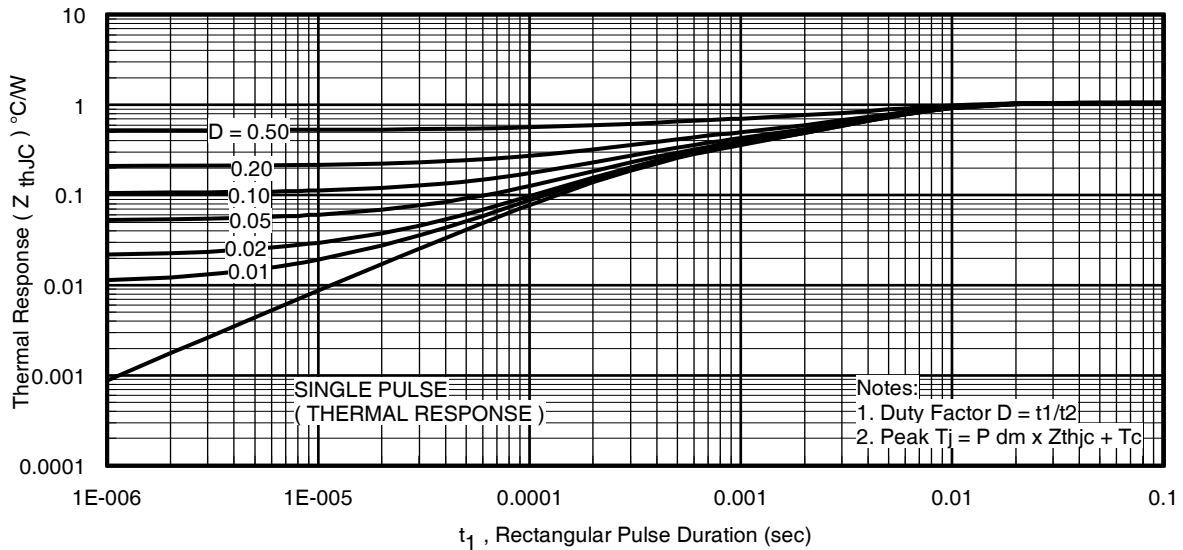

Fig 11. Maximum Effective Transient Thermal Impedance, Junction-to-Case
- ① Repetitive rating; pulse width limited by max. junction temperature. (See Fig. 11)